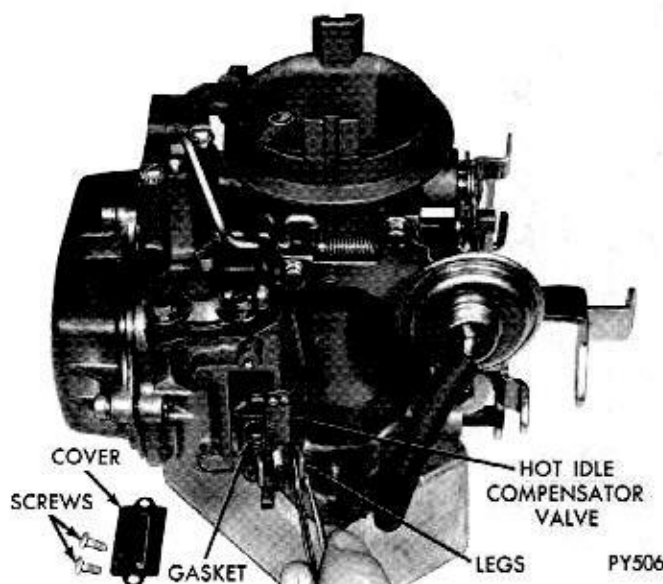

Fig. 4—Removing or Installing Hot Idle Compensator Valve (H.I.C.)
(4) Remove screws that attach hot idle compensator valve cover to air horn. Lift off cover, then remove valve and gasket. (Fig. 4.) If so equipped.
(5) Using a 5/8" wrench, remove fuel inlet needle